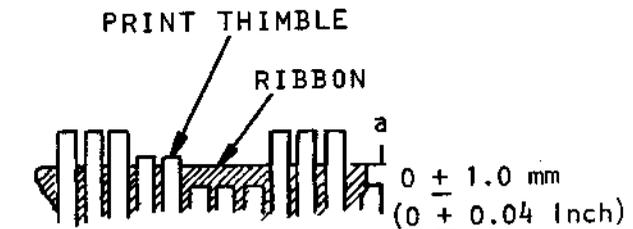

Figure 5-6 Visible Position Adjustment
- Refer to Figure 5-6. Verify that the gap between the ribbon top edge and the print thimble top edge is  $0 \text{ mm} \pm 1.0 \text{ mm}$  ( $0\text{-inch} \pm 0.04\text{-inch}$ ). This check may be done visually.